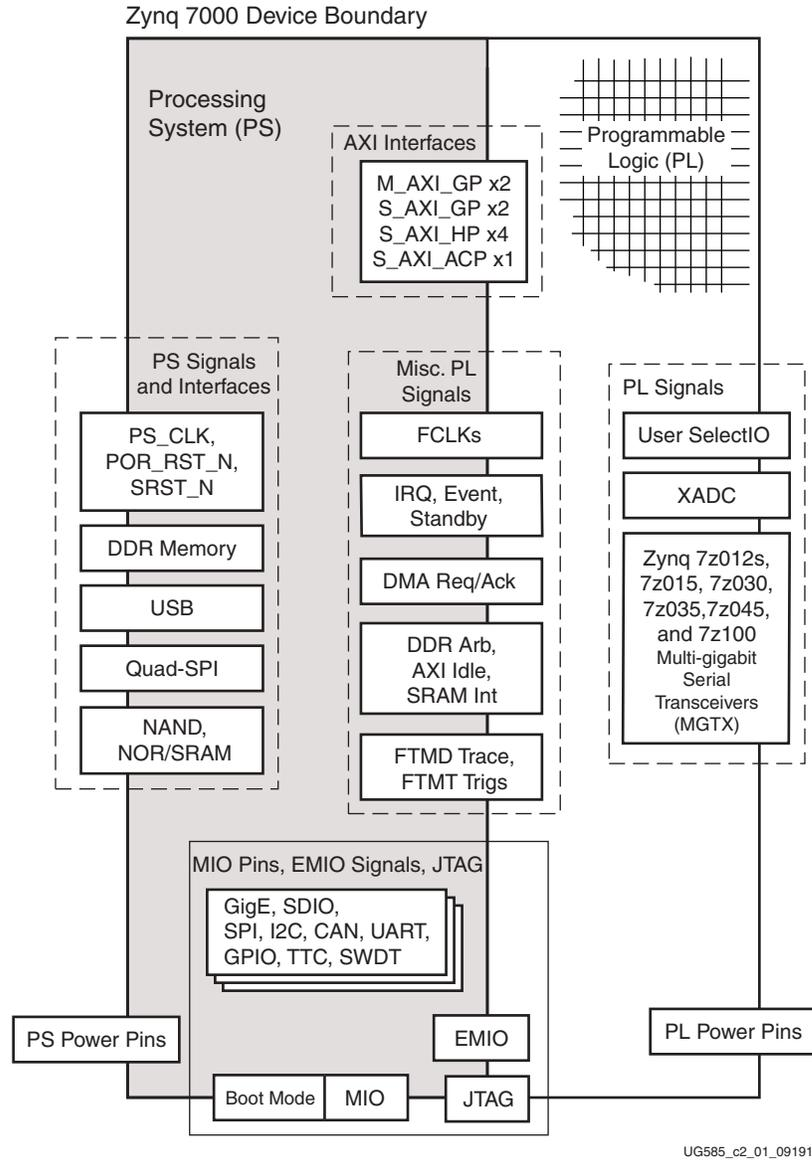

Figure 2-1: Signals, Interfaces, and Pins
This chapter identifies the user visible signals and interfaces in Zynq-7000 SoC devices. The interfaces and signals are organized into major groups as shown in Figure 2-1. The Zynq-7000 SoC devices consist of a Processing System (PS) with a Xilinx Artix™-7 or Kintex™-7 based Programmable Logic (PL) block.